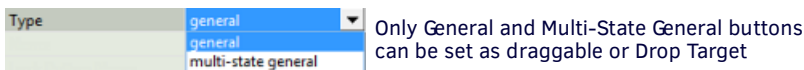

FIG. 231 TPDesign5 General Properties - Type set to "general"
- Set the button's *Type* (General) property to **general** (FIG. 231):